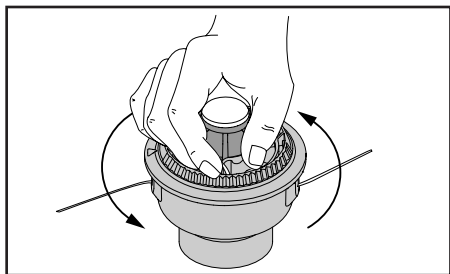

Fig. 14
6. Wind the inner reel counterclockwise until approximately four (4) inches of line remains outside of the eyelets in the outer spool (Fig. 14).